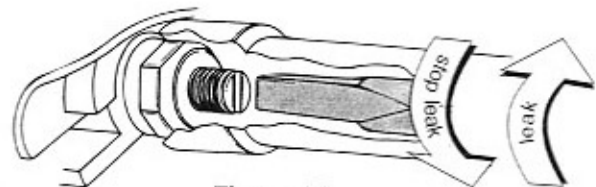

Figure 10
NOTE: If the second-stage leaks when the regulator is pressurized, do not continue with the testing procedures until the leak is stopped. To stop the leak, place the $1/4$ -inch nut driver portion of the Lever Height Adjustment Tool (LHAT) over the locknut (item 7) by passing it through the access port hole of the box bottom (item 12). Next, insert the screwdriver portion of the LHAT down through the center of the nut driver. Insert the blade of the screwdriver into the slot on the end of the retainer (item 2). See figure 10. While holding the screwdriver and retainer steady, turn the locknut (item 7) counterclockwise just until the leak stops. Remove the LHAT from the box bottom.
3. With the LHAT in place, turn the nut driver clockwise until you detect a slight leak. Then, turn the nut driver counterclockwise until the leak stops (figure 10). Remove the LHAT from the regulator.